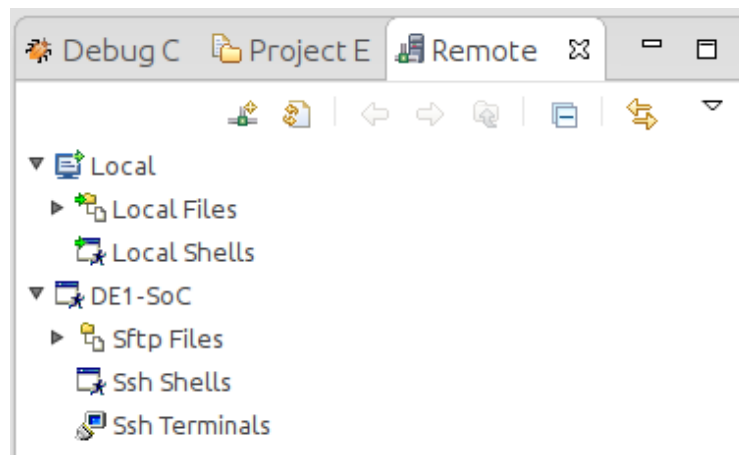

Figure 13-14. New SSH Connection In "Remote Systems" View
82. You should be able to see the remote system in ARM DS-5's “Remote Systems” view, as shown in Figure 13-14.